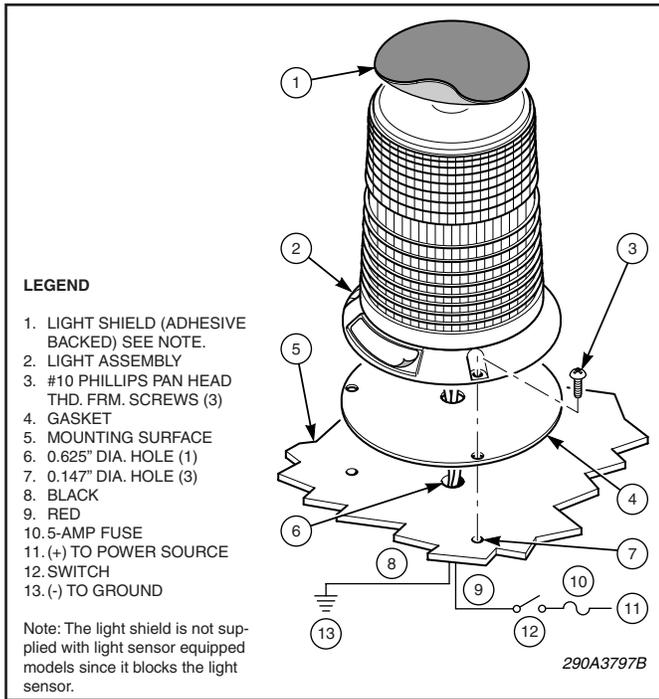

Figure 1.
1. *Permanent Mount. (see figure 1).*
- c. Align the gasket over the four previously drilled holes. Route the red and black wires through the gasket and wiring routing hole as shown in figure 1.
- d. Secure the base to the mounting surface with the #10 Phillips pan head thread-forming screws as shown in figure 1.